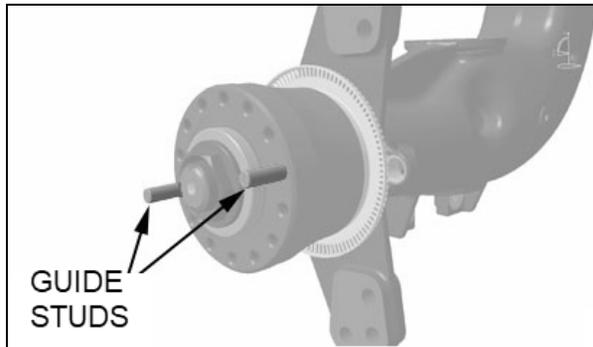

Figure 35
14. Install two guide studs on the unitized bearing (Figure 35).